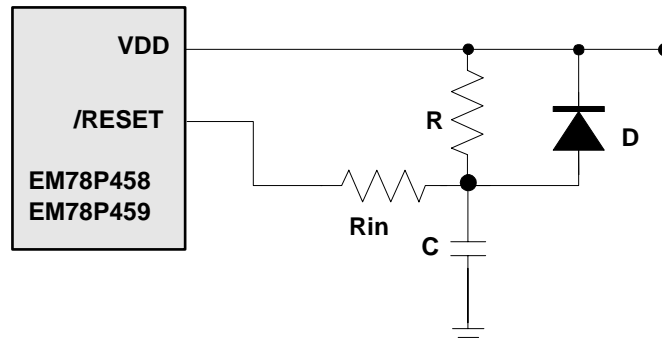

Fig. 22 External Power on Reset Circuit
The circuit shown in Fig. 22 implements an external RC to produce a reset pulse. The pulse width (time constant) should be kept long enough to allow V_{DD} to reach minimum operation voltage. This circuit is used when the power supply has a slow rise time. Because the current leakage from the /RESET pin is about $\pm 5\mu\text{A}$, it is recommended that R should not be great than 40 K. In this way, the voltage at Pin /RESET is held below 0.2V. The diode (D) acts as a short circuit at power-down. The capacitor, C, is discharged rapidly and fully. R_{in}, the current-limited resistor, prevents high current discharge or ESD (electrostatic discharge) from flowing into Pin /RESET.